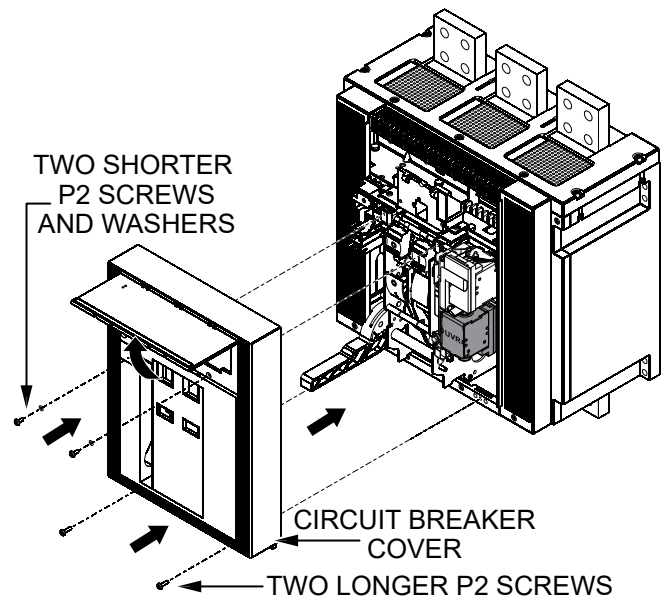

Figure 20. Reinstall Circuit Breaker Cover
14. Reinstall the **circuit breaker cover** (Figure 20) using the **four P2 screws and two washers** that were removed earlier. Remember that the two shorter screws with the washers are located at the top, and the two longer screws without washers are located at the bottom of the circuit breaker.